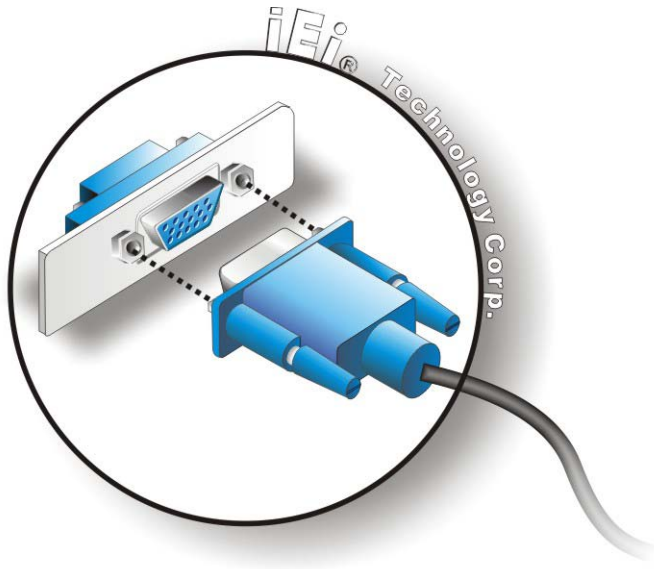

Figure 3-16: VGA Connector
- Step 3:** **Insert the VGA connector.** Once the connectors are properly aligned with the insert the male connector from the VGA screen into the female connector on the TANK-600. See **Figure 3-16**.